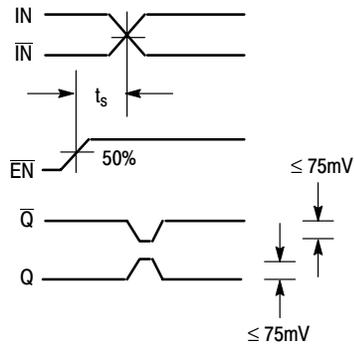

Figure 3. Setup Time
19. The setup time is the minimum time that \overline{EN} must be asserted prior to the next transition of IN/ \overline{IN} to prevent an output response greater than $\pm 75\text{ mV}$ to that IN/ \overline{IN} transition (see Figure 3).